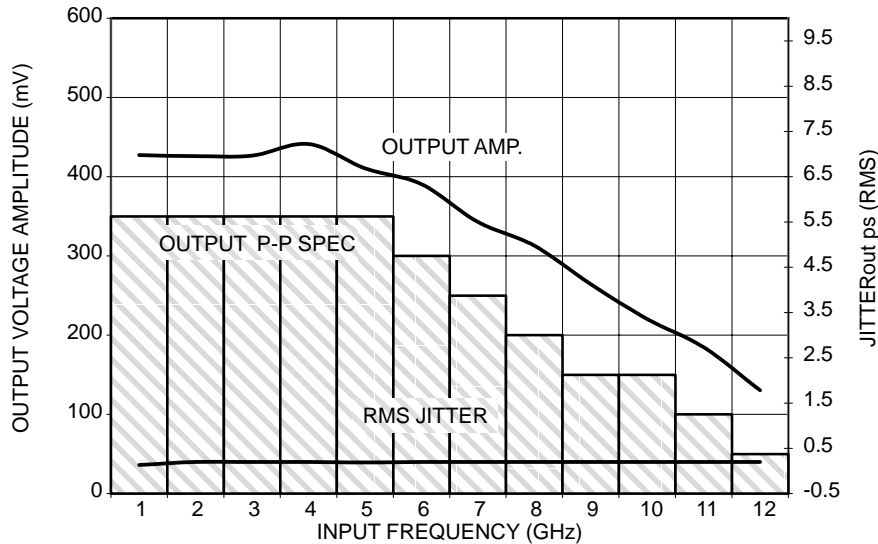

Figure 4. Output Voltage Amplitude (V_{OUTPP}) / RMS Jitter vs. Input Frequency (f_{in}) at Ambient Temperature (Typical)
23. Measured using a 500 mV source, 50% duty cycle clock source. All loading with $50\ \Omega$ to $V_{CC} - 2.0\text{ V}$. For minimum f_{max} value of 10.709 GHz, output amplitude is approximately 200 mV (as shown in Figure 4, where output P-P spec is shown as a minimum/guarantee of around 150 mV). Input edge rates 40 ps (20% - 80%).
28. Measured using a 500 mV source, 50% duty cycle clock source. All loading with $50\ \Omega$ to $V_{CC}-2.0\text{ V}$. For minimum f_{max} value of 10.5 GHz, output amplitude is approximately 200 mV (as shown in Figure 4, where output P-P spec is shown as a minimum/guarantee of around 150 mV). Input edge rates 40 ps (20% - 80%).